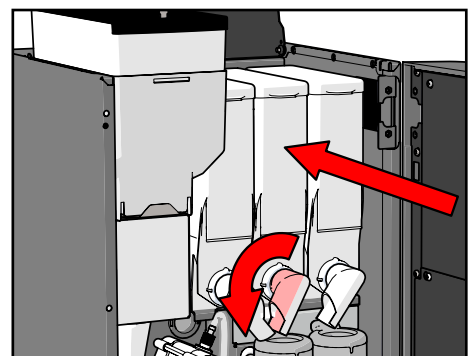

Figure 70.
5. Replace the canisters in the machine and turn the spout downward (see Figure 70).